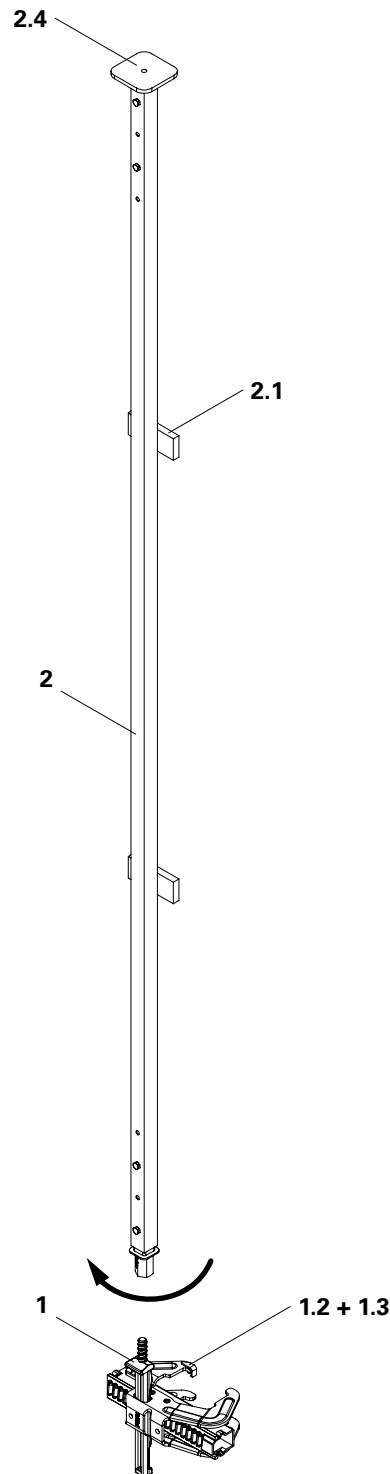
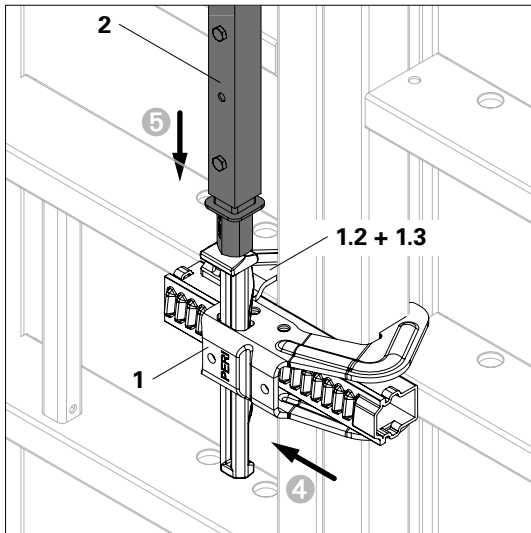

Fig. A3.04
Fig. A3.05
1. Screw control rod (2) onto element connection lock (1). (Fig. A3.04)
2. Position the element connection lock (1) on the cross strut of the formwork joint
3. Engage element connection lock (1) until hook (1.3) of the mounting bracket (1.2) hooks into the side profile.
4. Close the element connection lock (1) with a push.
5. Secure the element connection lock (1) with three hammer strikes on the stop MX VS (2.4) and bracket (2.1).
6. Unscrew control rod (2) from the element connection lock (1). (Fig. A3.05 + A3.06)